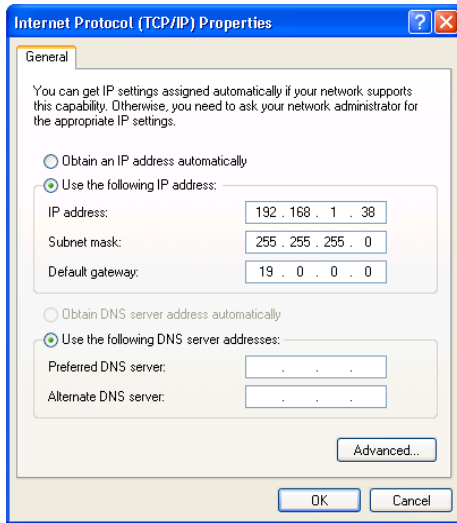

Figure 5: Internet Protocol (TCP/IP) Properties Window
6. Select **Use the following IP Address**, and fill in the details as shown in Figure 5.